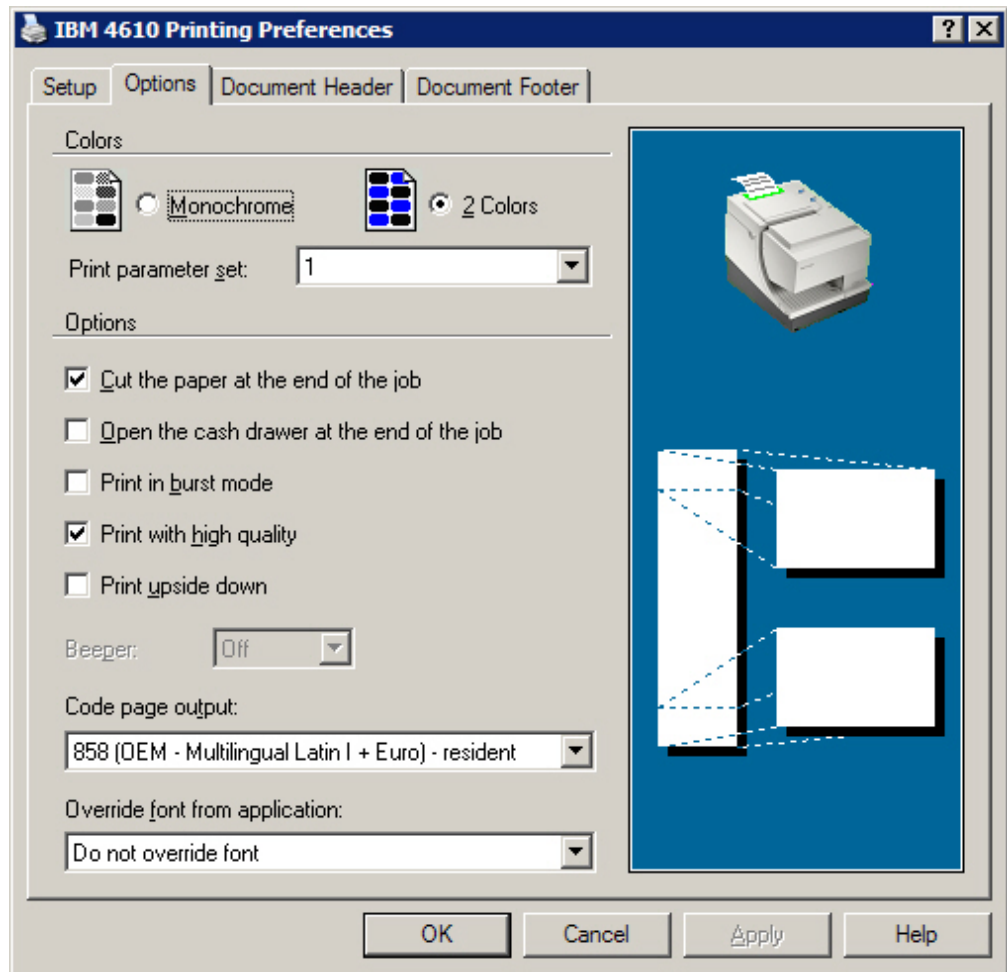

Figure 16. Options tab
4. Click the **Options** tab, and set the options that you require (see Figure 16).